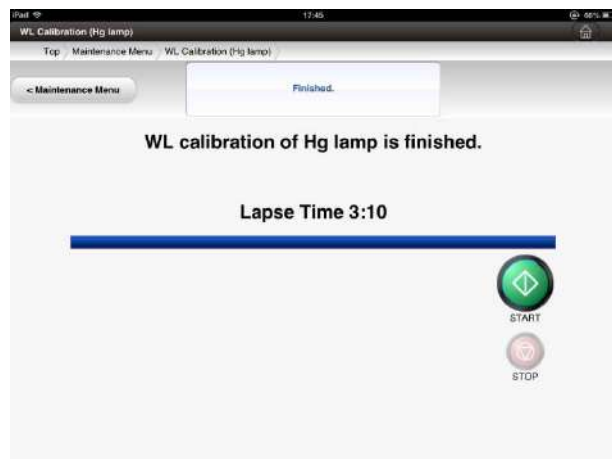

Fig. 6-51 Post-Wavelength Calibration by Pen Type Low-Pressure Mercury Lamp Screen
- (6) After the calibration by Hg lamp is finished, the screen in Fig. 6-51 is displayed. The Wavelength calibration by the pen type low-pressure mercury lamp fully completed. Remove the pen type low-pressure mercury lamp from the instrument at this point. Then, check the Wavelength accuracy of the performance check as necessary.